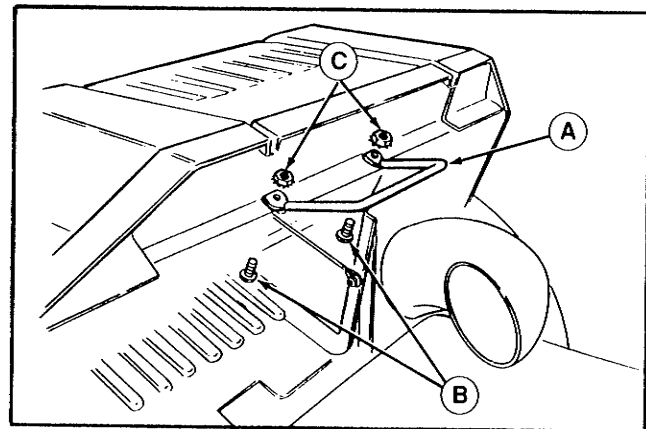

Figure 19.
27. Install handle (A, figure 19) to rear surface of lid with offset toward the rear. Secure with two 10-32 x 1/2 truss screws (B) and 10-32 nut/washer assemblies (C).